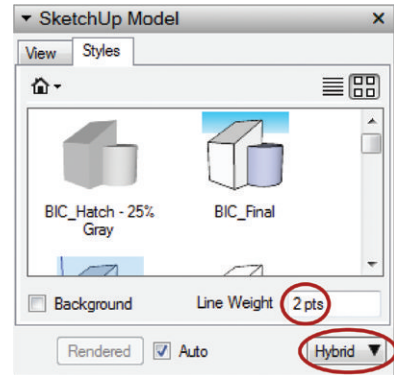

Figure 15.29 The SketchUp Model settings' Style tab
6. On the Style tab of the SketchUp Model Inspector, set the line weight to 2. If Auto-Render is unchecked, you should render the models on the page at this time (Figure 15.29).